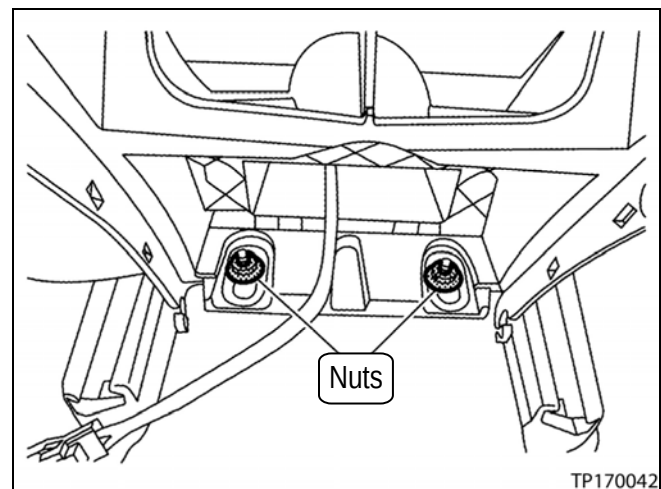

Figure 11
- j. Remove the two (2) nuts (see Figure 11).